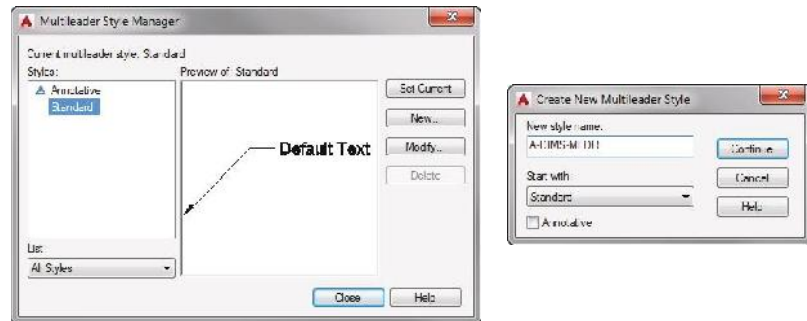

FIGURE 12.35: Creating a new multileader style
4. In the Create New Multileader Style dialog box that opens, enter A-DIMS-MLDR in the New Style Name text box and then click Continue (see Figure 12.35).